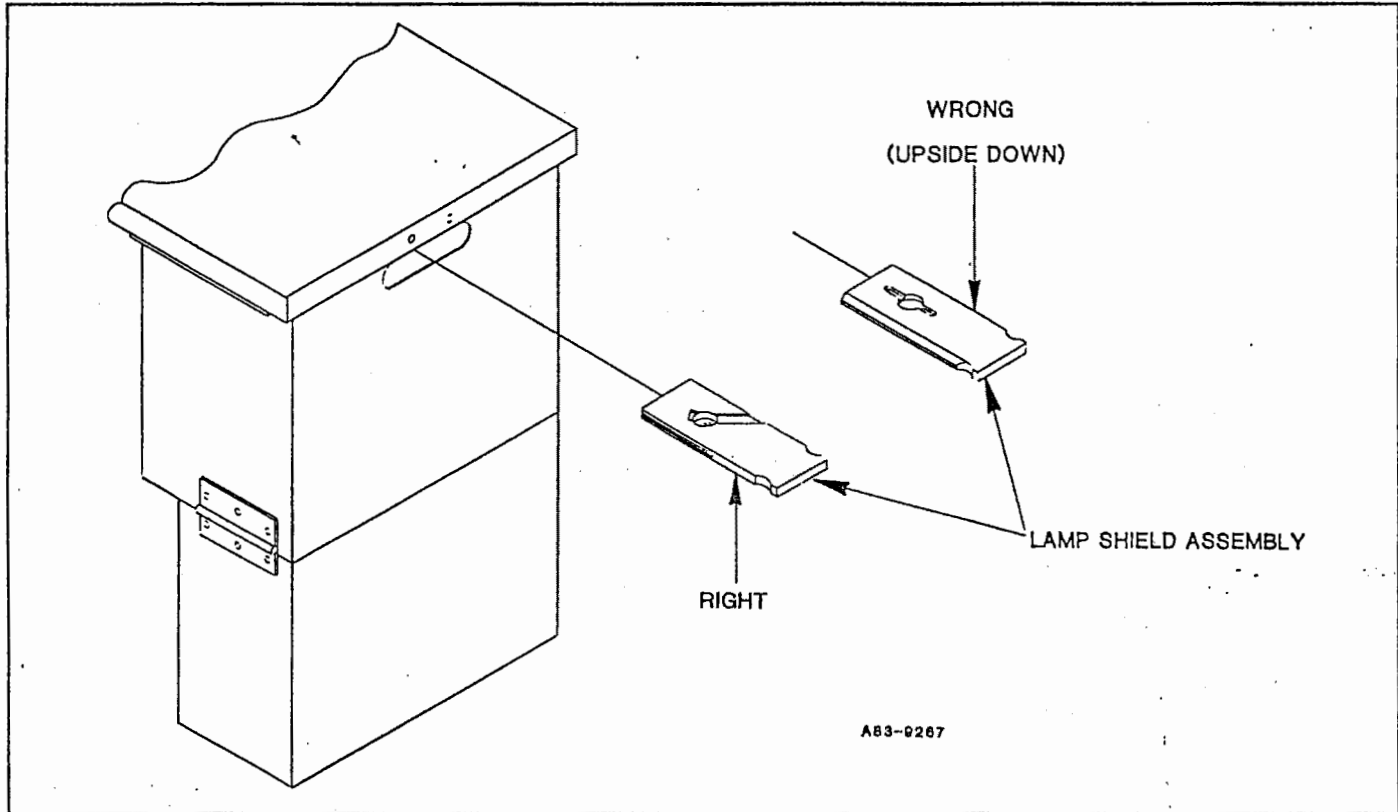

Figure 8.8 A
- a. Check to see if the lamp shield assembly is covered with slugs. Slugs on the lamp shield assembly block out the light from the bottom target lamp. There are three reasons why the lamp shield assembly can get covered up with slugs. First, the lamp shield assembly was installed upside down. See Figure 8.8 A. If this is the case, reinstall the lamp shield assembly right side up as shown in Figure 8.8 A. Second, large or sticky slugs are being punched. If this is the case, turn the vacuum switch to the "CONTINUOUS" position. Third, the slug vacuum is not working properly. If this is the case, troubleshoot the slug vacuum according to Section 5.2.10.